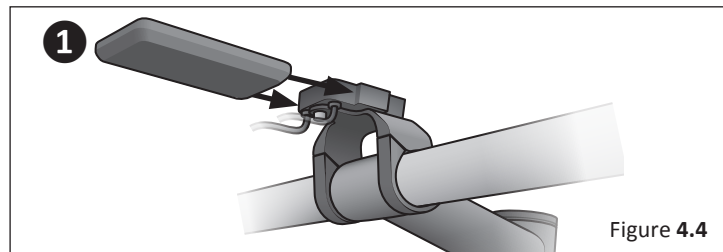

Figure 4.4
- 1 Slide the display into the display bracket until it snaps into place. **Figure 4.4**